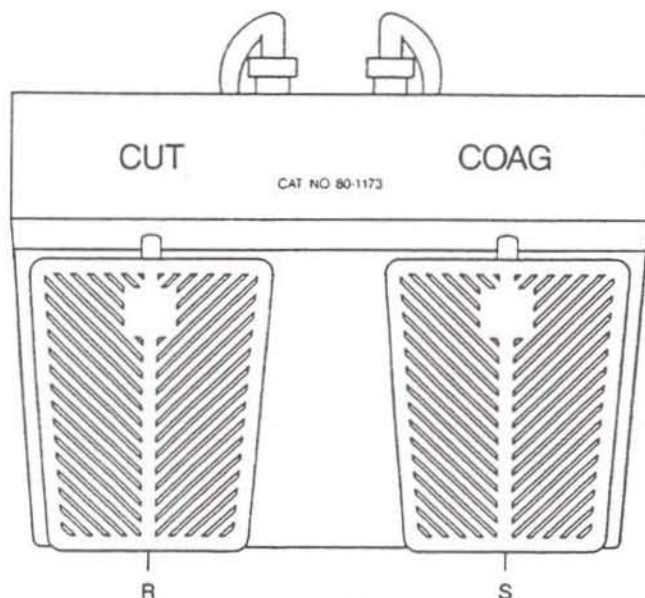

Figure 4. Pneumatic Footpedal Controls (Items R and S)
When you press this button, cutting power is delivered to the forceps. (The Cut pedal on the footpedal, Item R in Figure 4, also controls this function.)
By pressing this button, you cause coagulation power to be delivered to the forceps. (The Coag pedal on the footpedal, Item S in Figure 4, also controls this function.)
5.4 FOOTPEDAL CONTROLS (Figure 4)